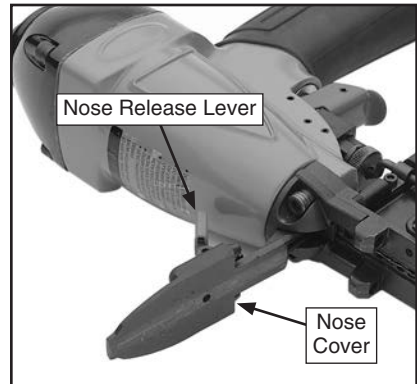

Figure 6. Example of nose being opened to clear a jam.
4. Open the nailer nose with the nose release lever (see **Figure 6**).